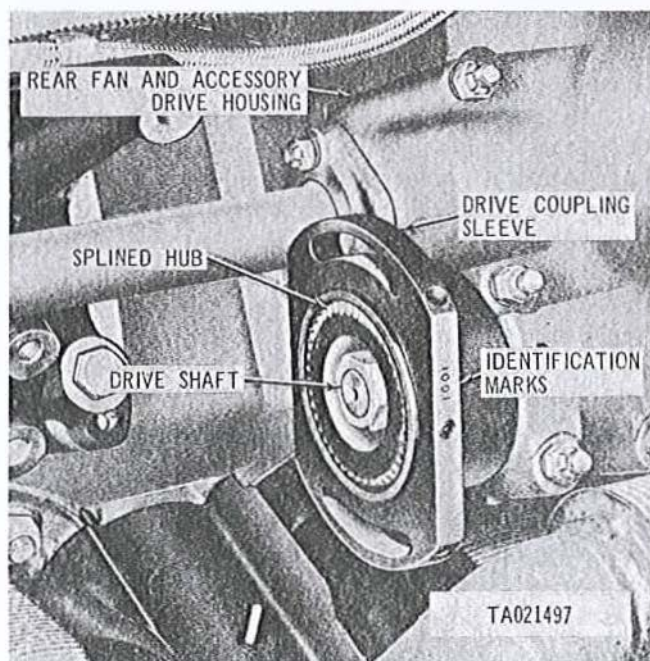

Figure 2-53. Correct position of fuel injection pump drive coupling on hub before pump installation.
(5) Push drive coupling sleeve (fig. 2-53) toward rear fan and accessory drive housing, until sleeve clears splined hub. Rotate coupling sleeve until identification marks approximate the correct position to mate with injection pump drive coupling sleeve identification marks.